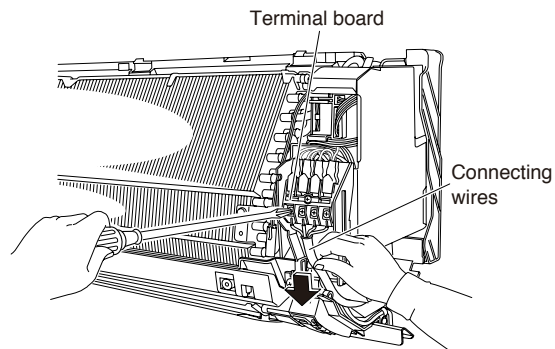

Fig. 18
- (2) Disconnect the connection wires. (Fig.18)